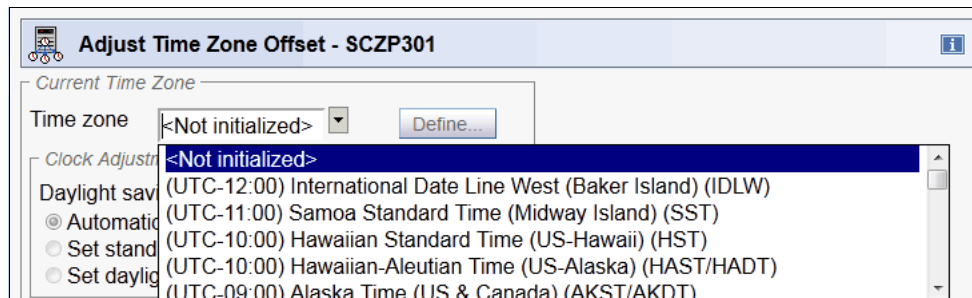

Figure 6-45 Initialize Time - Adjust Time Zone Offset - Time zone selection
2. Select a value from the Time Zone drop-down menu (Figure 6-45).
Also, if the time zone is subject to daylight saving time adjustments, the daylight saving time name and daylight saving offset must be specified. Optionally, algorithms for daylight saving time start and daylight saving time end can be defined to support automatic clock adjustment by selecting the **Define adjustment of clock for daylight saving time** option. The algorithm is saved when **OK** is clicked, but it is not sent to the STP facility until **OK** is clicked in the Adjust Time Zone Offset window; see Figure 6-45 on page 184.